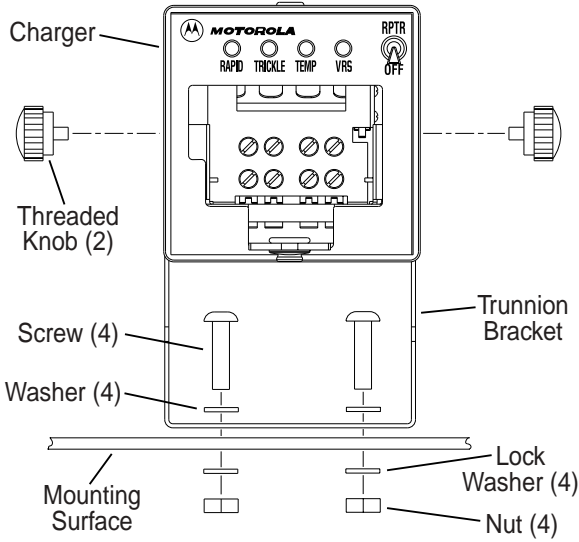

Figure 4 Installing the Vehicular Charger
4. Referring to Figure 4, mount the bracket using appropriate screws, washers, lock washers, and nuts.